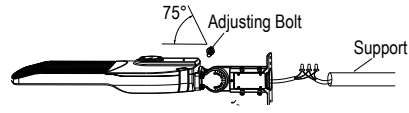

Figure 29
Step 2: Loosen the four bolts on the A&D bracket, connect the wires correctly, and pull the wires into the poles (Figure 29).
Step 3: Place the bracket onto the pole and secure the four bolts (Figure 29).
Notice: The adjustable angle is 0-75° (Figure 29).